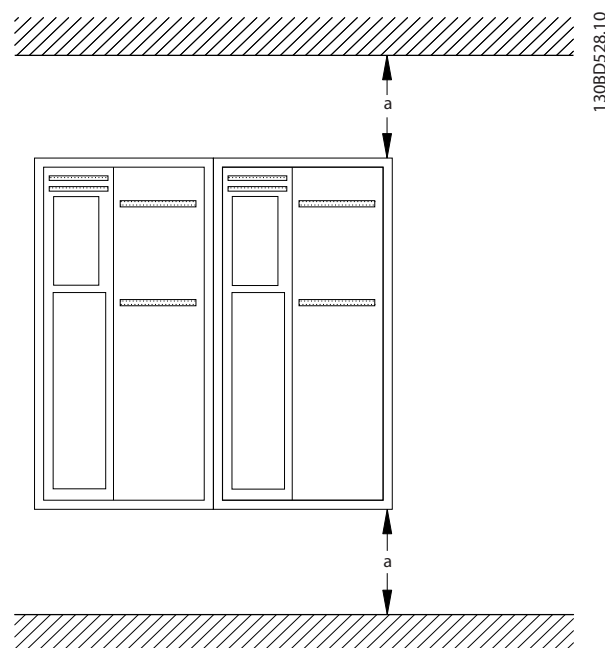

Figure 3.4 Top and Bottom Cooling Clearance
- Ensure that top and bottom clearance for air cooling is provided. See *Figure 3.4* for clearance requirements.